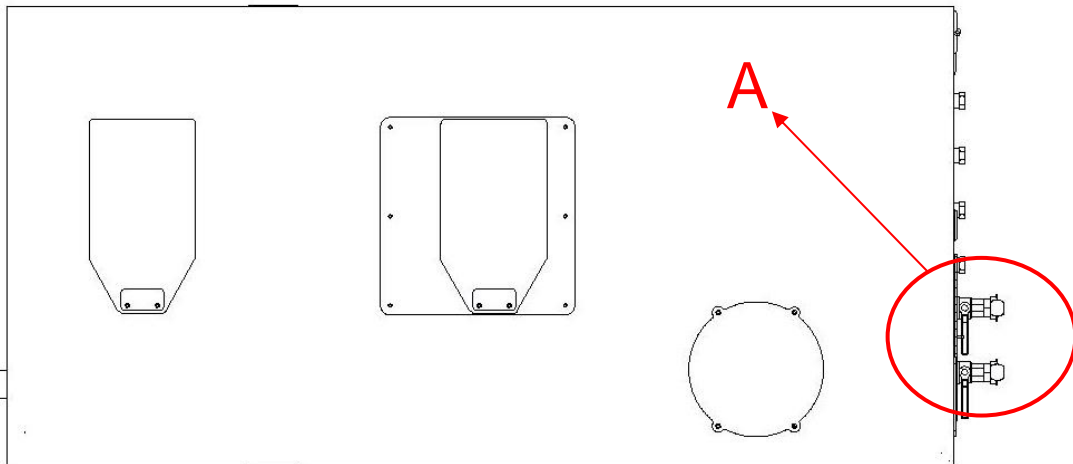

Figure 10.2-1 Location of the taps (top view)
- 3) Progressively open the taps (Letter A Figure 10.2-1).
3. Gradually open the air valve (Letter A in Figure 10.2-1);